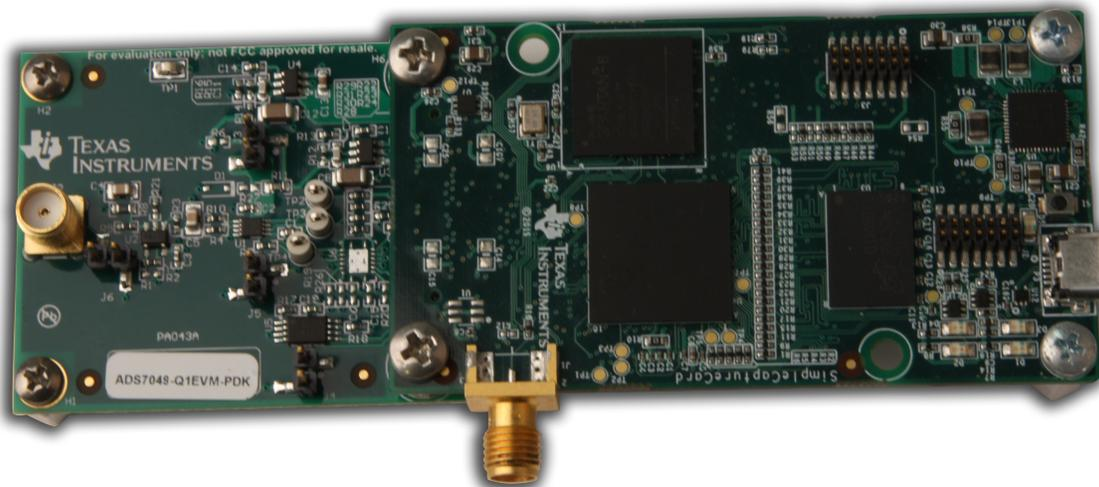

Figure 7. EVM-PDK Hardware Setup and LED Indicators
1. Connect the ADS7049-Q1EVM to the PHI. Install the two screws as indicated in Figure 7.